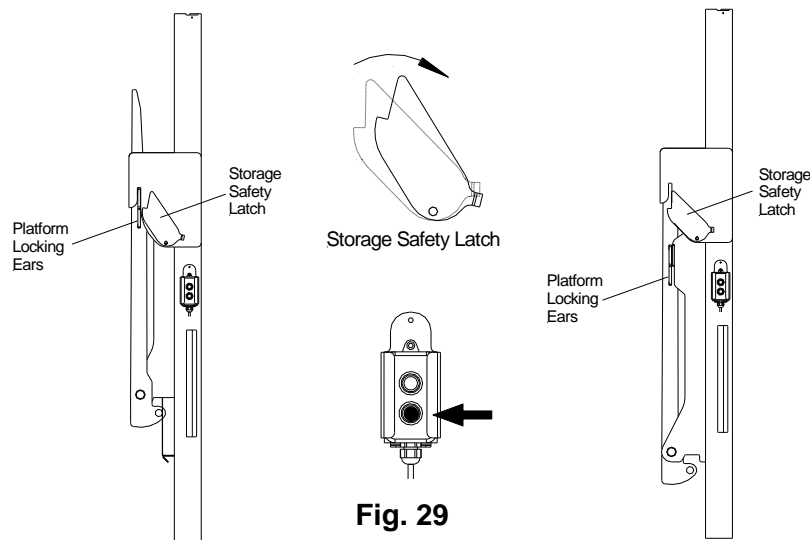

Fig. 29
2. Clear the platform sliding path by moving the storage safety latch manually. Hold the safety latch down manually with one hand and press the **Down** button on the control with the other hand until the platform locking ears clear the safety latch, **Fig. 29.** Release the safety latch back to its original place.